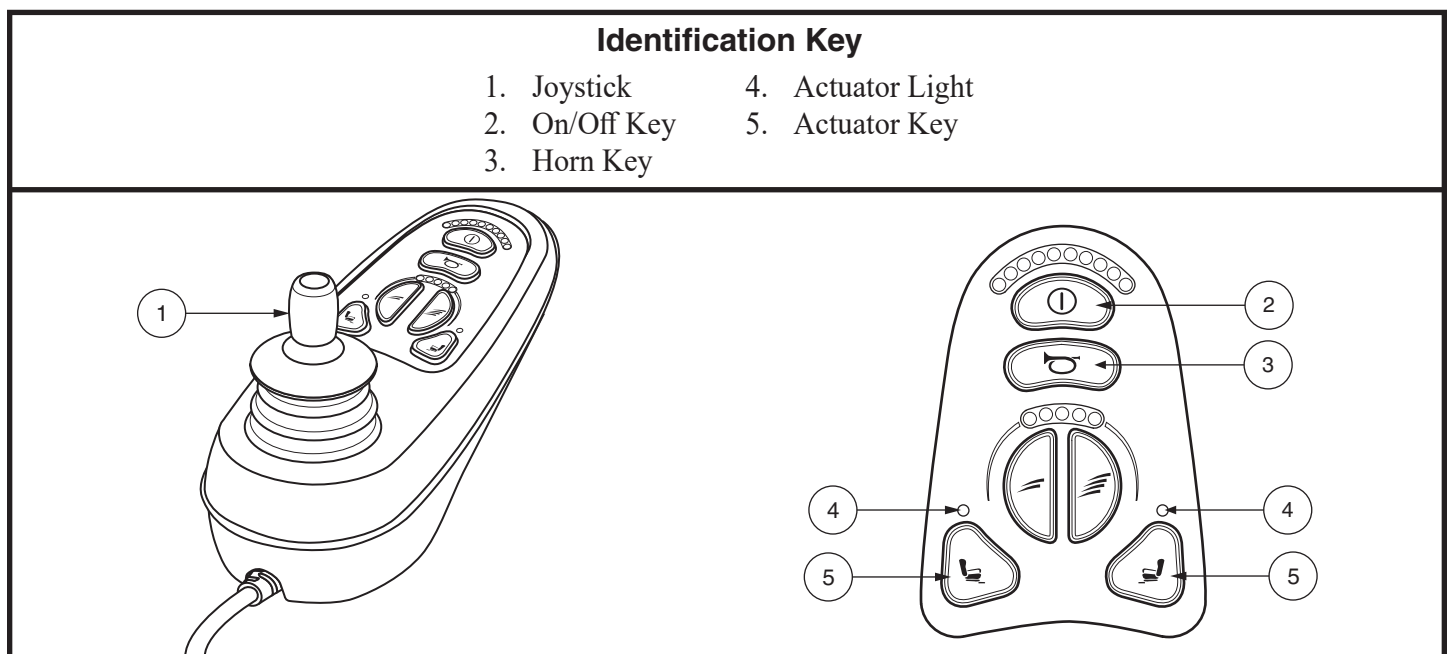

Figure 14. VR2 6-key Controller and Keypad
1. Push the on/off key to power on the chair and the controller. See figure 14.
2. Push the desired actuator key to select actuator mode. See figure 14.
5. Push the on/off key to return to drive mode. See figure 14.